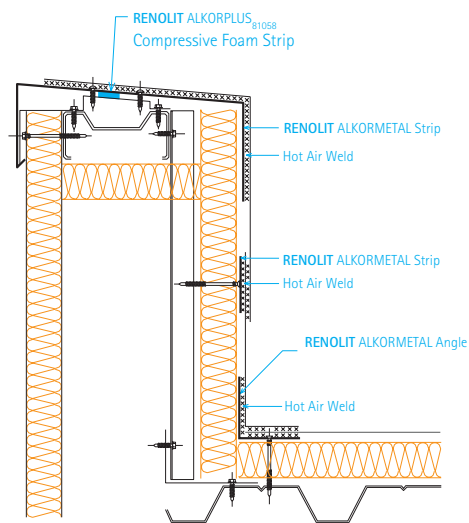

fig. 4: **RENOLIT ALKORPLUS₈₁₀₅₈** compressive foam strip
• With a **RENOLIT ALKORPLUS₈₁₀₅₈** compressive foam strip underneath the **RENOLIT ALKORPLAN** metal sheet trim, the parapet top is sealed against wind pressure. (See fig. 4) The membrane is protected from an abrasive upstand surface by a **RENOLIT ALKORPLUS₈₁₀₀₅** protective layer (min. 300 g/m²). Where the parapet height exceeds 500 mm, intermediate support with a continuous **RENOLIT ALKORPLAN** metal sheet (50 mm wide) is required.